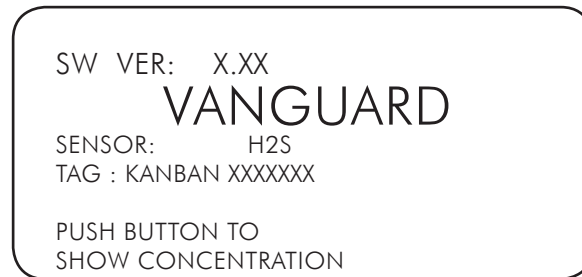

Figure 7
7. When hardware and software boot-up is complete, the front panel display will display the device name, HART long tag, and the software version, along with an instruction to push button to show gas concentration (see Figure 7).